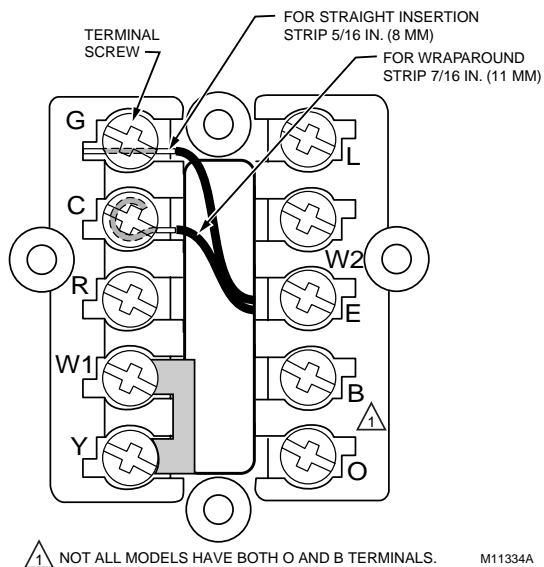

Fig. 4. Wiring connections.
The shape of the terminals permits insertion of straight or wraparound wiring connections; either method is acceptable. See Fig. 4.
1. Loosen the terminal screws on the wallplate and connect the system wires. See Fig. 4.